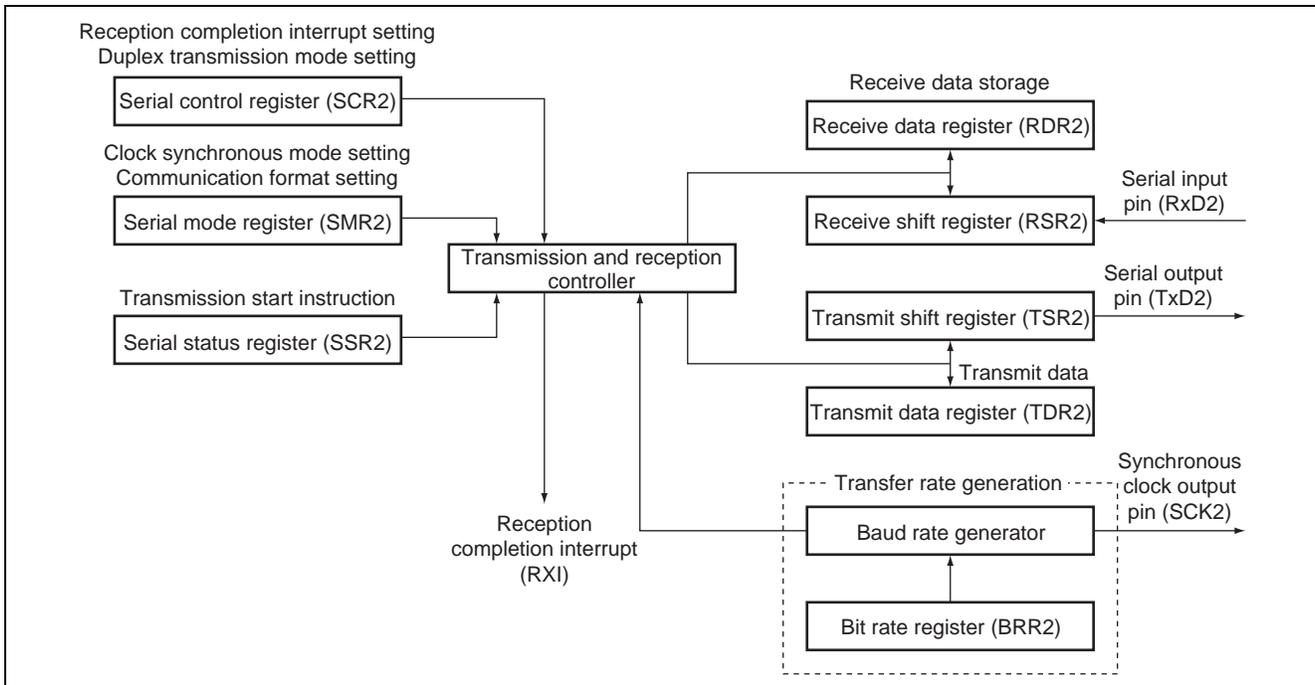

Figure 2 SCI Block Diagram
- A. The block diagram of SCI to be used by the sample task is shown in figure 2. This sample task uses the following functions of SCI to perform transmission and reception simultaneously.